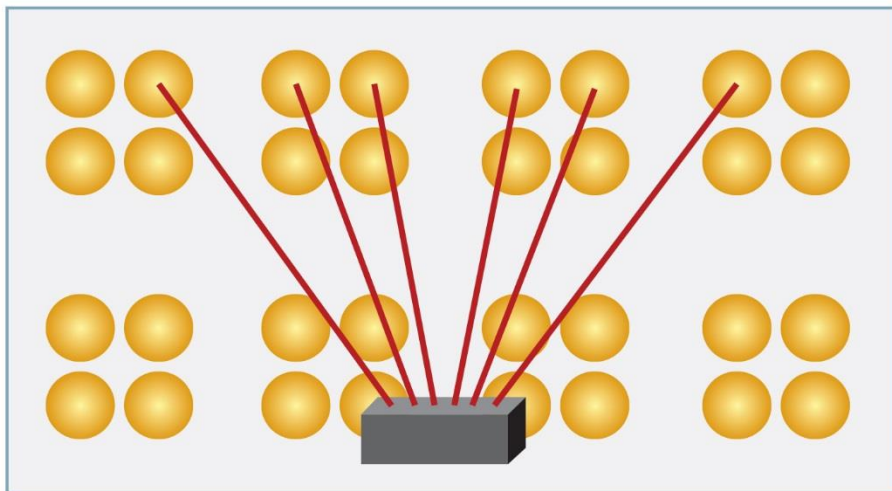

Figure 1
- Place the data logger directly on top of the buns in the last row and center column of the pan (see Figure 1).
- Stretch the six thermocouple wires to the row of buns that is farthest from the data logger, concentrating the probes toward the center lane of the pan (see Figure 1).